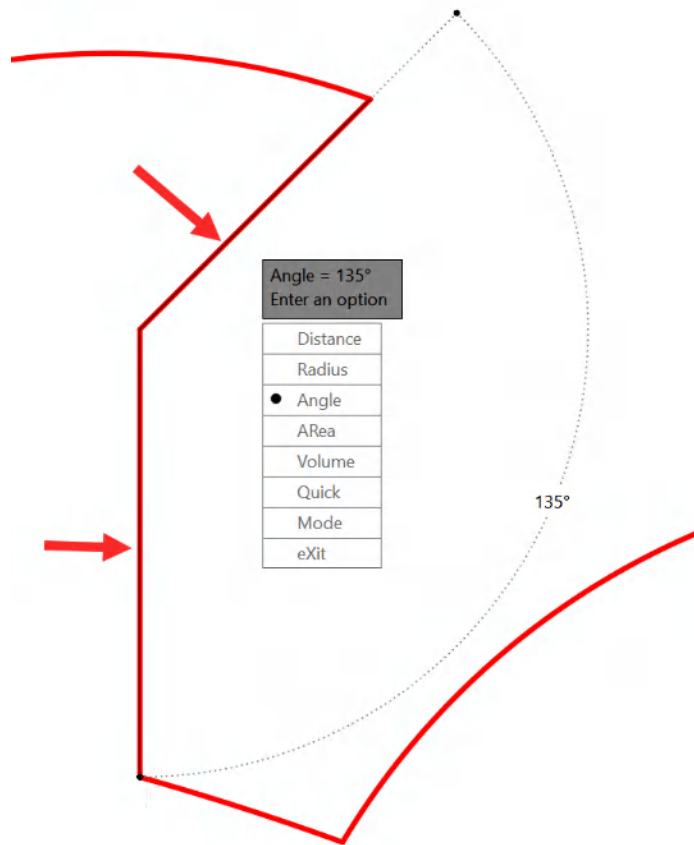

Figure 6.14: The displayed angle is measured using the two lines (arrowed)
- Angles can also be measured by using two divergent lines. Select the two lines arrowed in *Figure 6.14*, and you will see the angle measurement displayed between them as **135°**.